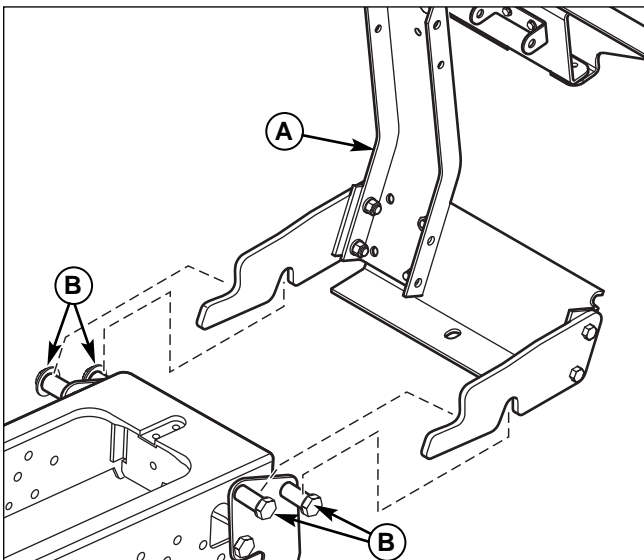

Figure 8. Attach Hitch and Upright Support
1. Attach hitch and upright support assembly (A, Figure 8) to frame spacers (B) as shown.